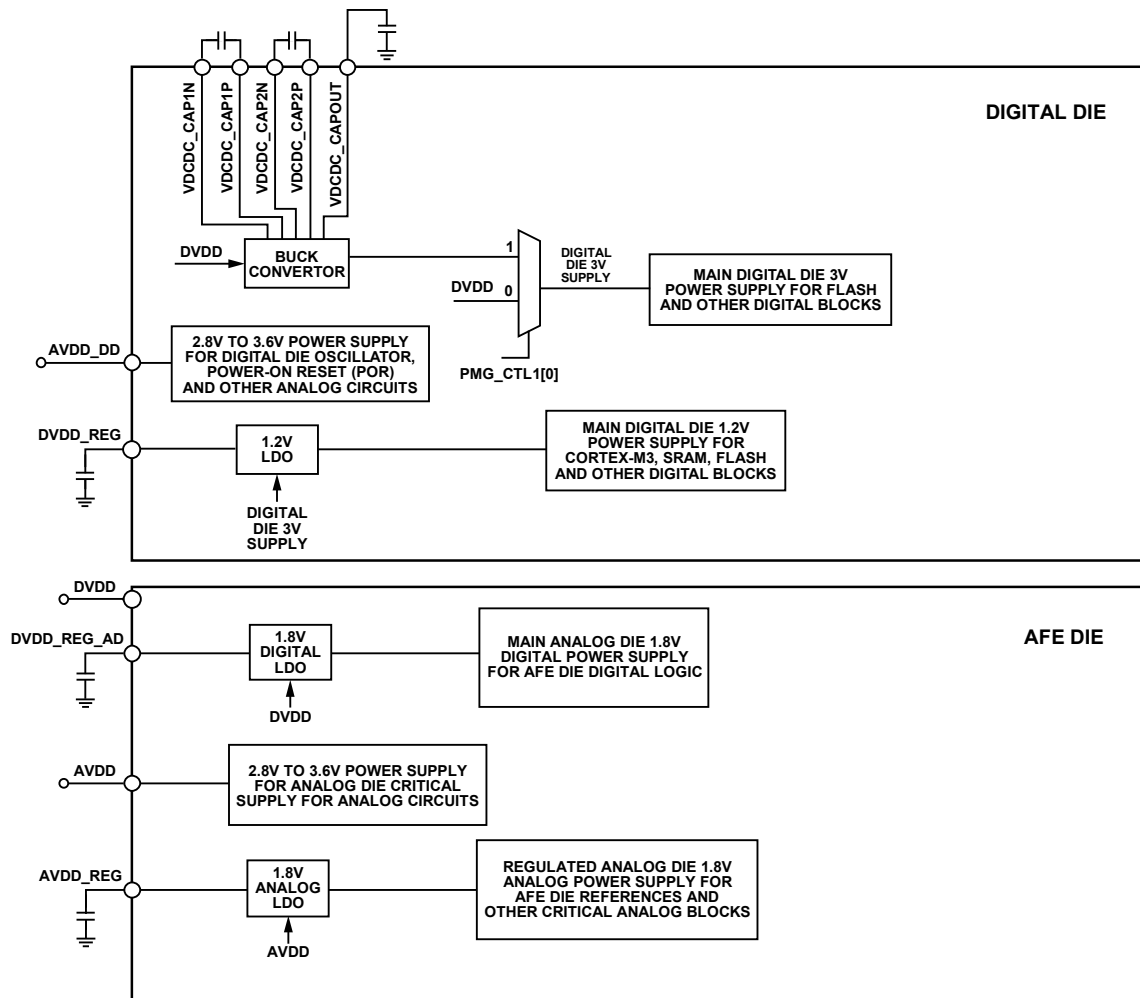

Figure 3. Power Supply Architecture Block Diagram
- Buck converter for active mode, which requires external flying capacitors, as shown in the Figure 3. The buck converter is disabled by default. For optimal performance of the analog peripherals, leave the converter disabled.